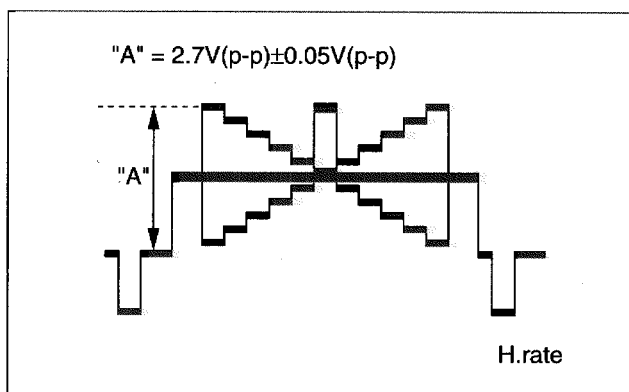

Fig. 3-4-3 Gain
- 2) Adjust VR7101 so that level of "A" (see Fig. 3-4-3) of a waveform becomes $2.7 V(P-P) \pm 0.05 V(p-p)$.